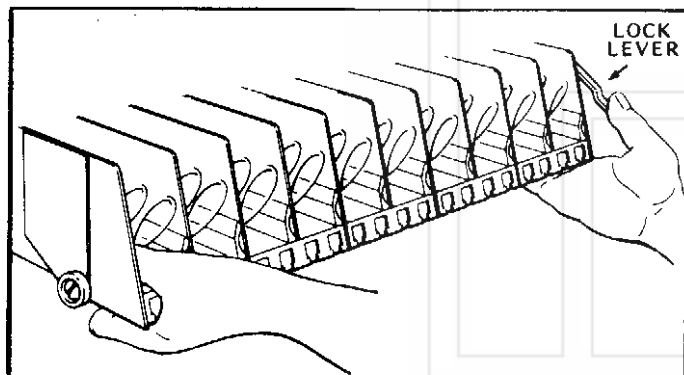

Figure 1. MOVING SHELF TO LOADING POSITION.
4. **LOADING SNACK SHELVES:** Open door to full open position, push down on white plastic lock lever (Figure 1) on right side panel by shelf to unlock shelf, holding lever down. Grasp the shelf, under both front corners (see Figure 1), lift front shelf slightly and pull forward until shelf reaches its stop. The shelves tilt down (do not drop) to make loading easier. **Only one product shelf should be in the loading position at a time.** When returning a shelf, be sure the shelf is in its full home or vend position. Begin loading with the top shelf. Move it to the loading position. The height spacing for items is greatest in this shelf and the tallest bagged items should be placed there. Soft items, such as pastry, pies, etc., should be placed in the lowest snack shelf, making the drop distance as short as possible.